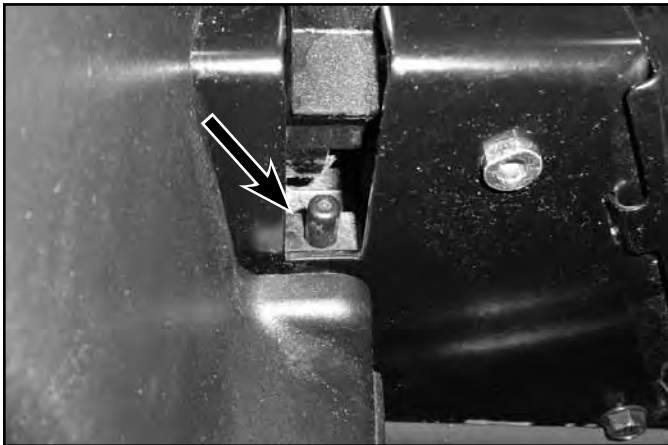
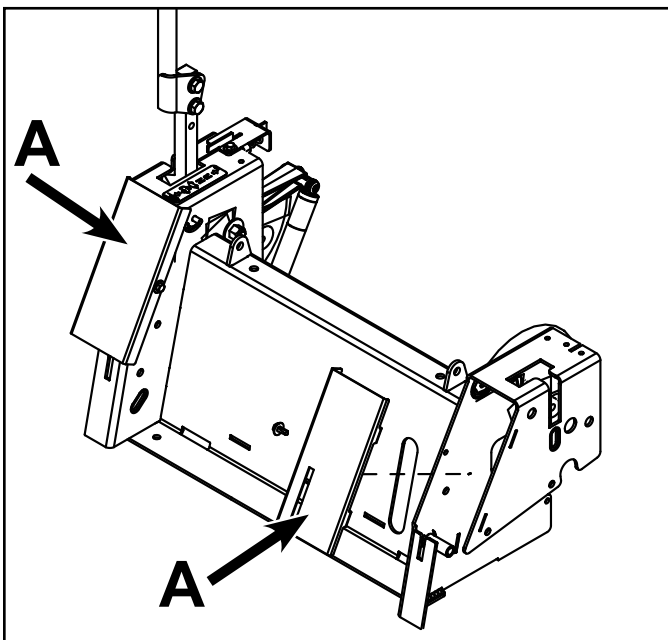

Fig. 141
Fig. 142
The RH and LH Neutral Switches are located in the fender/control arm pivot area. The RH and LH switches are serviceable by removing the control cover fastener and the control cover (A) (Fig. 141 and Fig. 142).